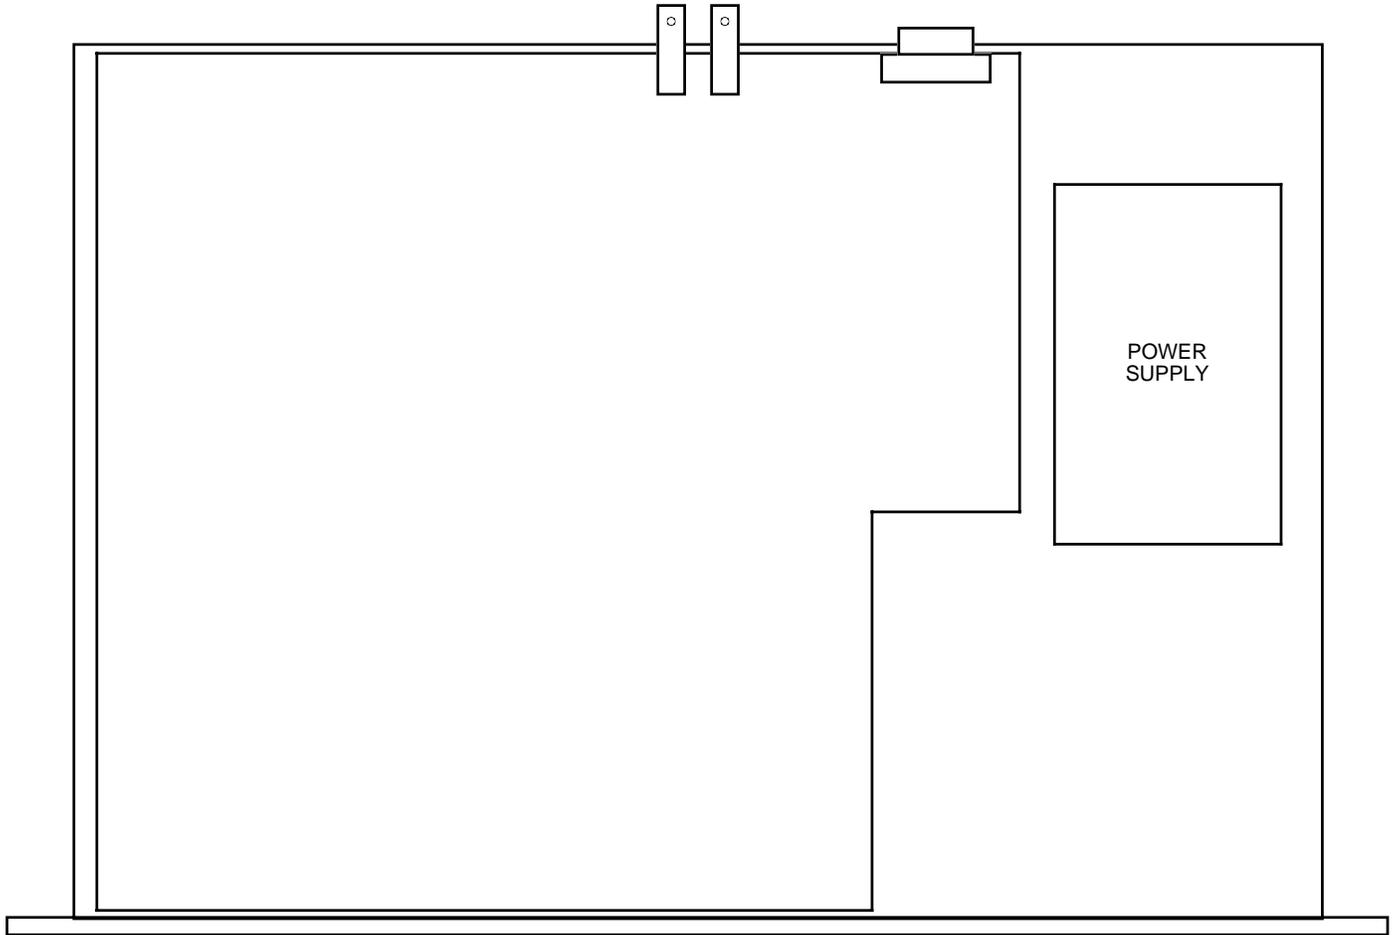

FIGURE 2.0 2099-10 Mechanical Assembly
2.1 Mechanical - The 2099-10 consists of one RF PCB housed in a 1 RU (1 3/4 inch high) by 14 inch deep chassis. A switching, ± 12 , +24, +5 VDC power supply provides power for the assemblies. The 2099-10 can be secured to a rack using the 4 holes on the front panel. Figure 2.0 shows how the 2099-10 is assembled.